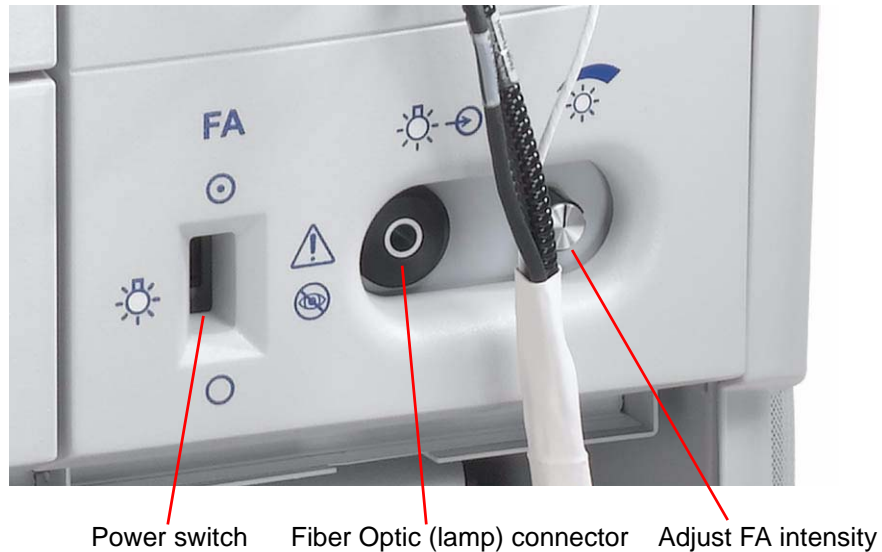

Figure 38 Front panel of FA Module
- 4. Attach the fiber optic lamp connector from the handpiece into the FA module fiber optic port. (See Figure 38.)
- 6. Adjust FA light intensity using the FA light intensity knob shown in Figure 38.